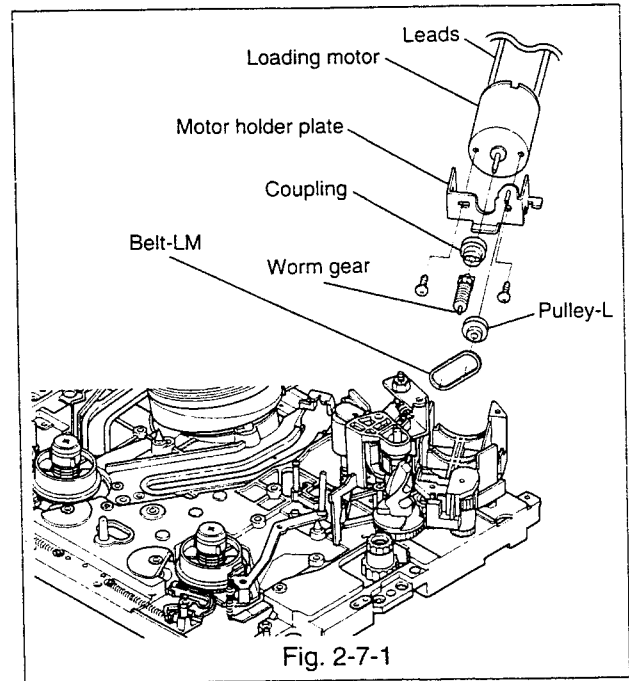

Fig. 2-7-1
2-7-1 Removal(Refer to Fig. 2-7-1, 2-7-2.)
- E. Remove the belt-LM from the loading motor and the pulley-L.(TYPE-B only)(Refer to Fig. 2-7-1.)
2-7-2 Installation(Refer to Fig. 2-7-1-2-7-3.)
- B. Fasten the motor holder plate to the motor with two screws.(Refer to Fig. 2-7-1.)